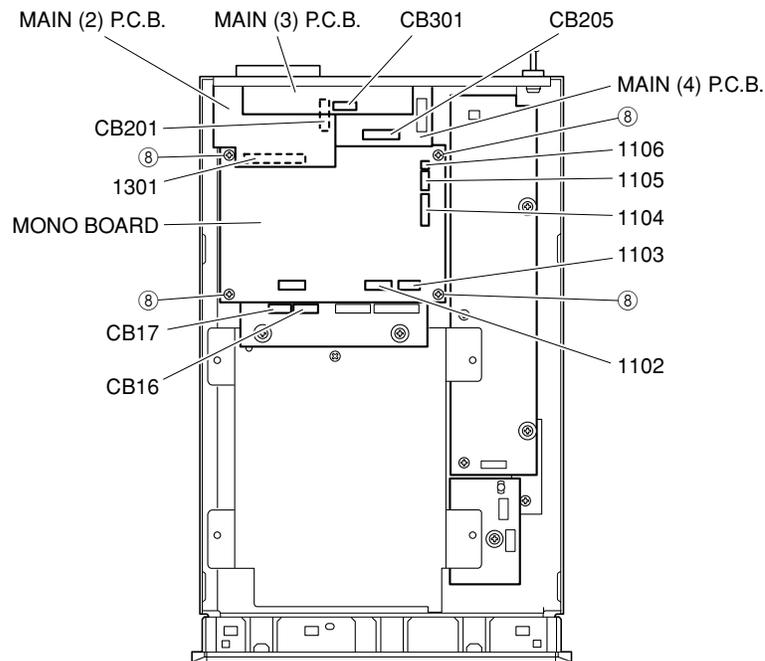
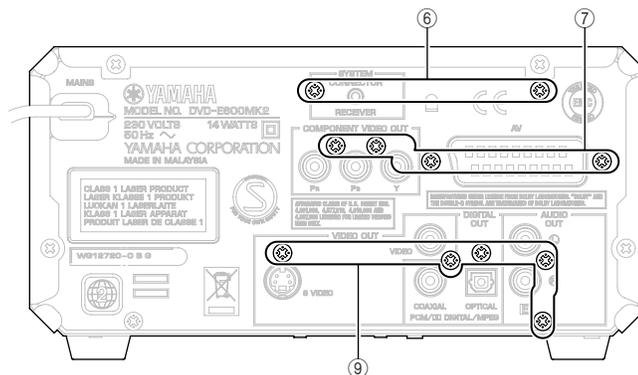

Fig. 3
Fig. 4
- b. Remove a connectors (CB16, CB17). (Fig. 3)
4. Removal of MAIN (3) P.C.B.
- Remove 2 screws (⑥). (Fig. 4)
- Remove a connector (CB301). (Fig. 3)
- Remove the MAIN (3) P.C.B..
5. Removal of MAIN (2) and MAIN (4) P.C.B.
- Remove 4 screws (⑦). (Fig. 4)
- Remove a connector (CB205). (Fig. 3)
- Remove the MAIN (2) and MAIN (4) P.C.B..
- Remove 4 screws (⑧). (Fig. 3)
- Remove a connectors (1102~1106, 1301). (Fig. 3)
7. Removal of MAIN (5), MAIN (6) P.C.B. and POWER SUPPLY UNIT
- a. Remove 5 screws (9). (Fig. 4)